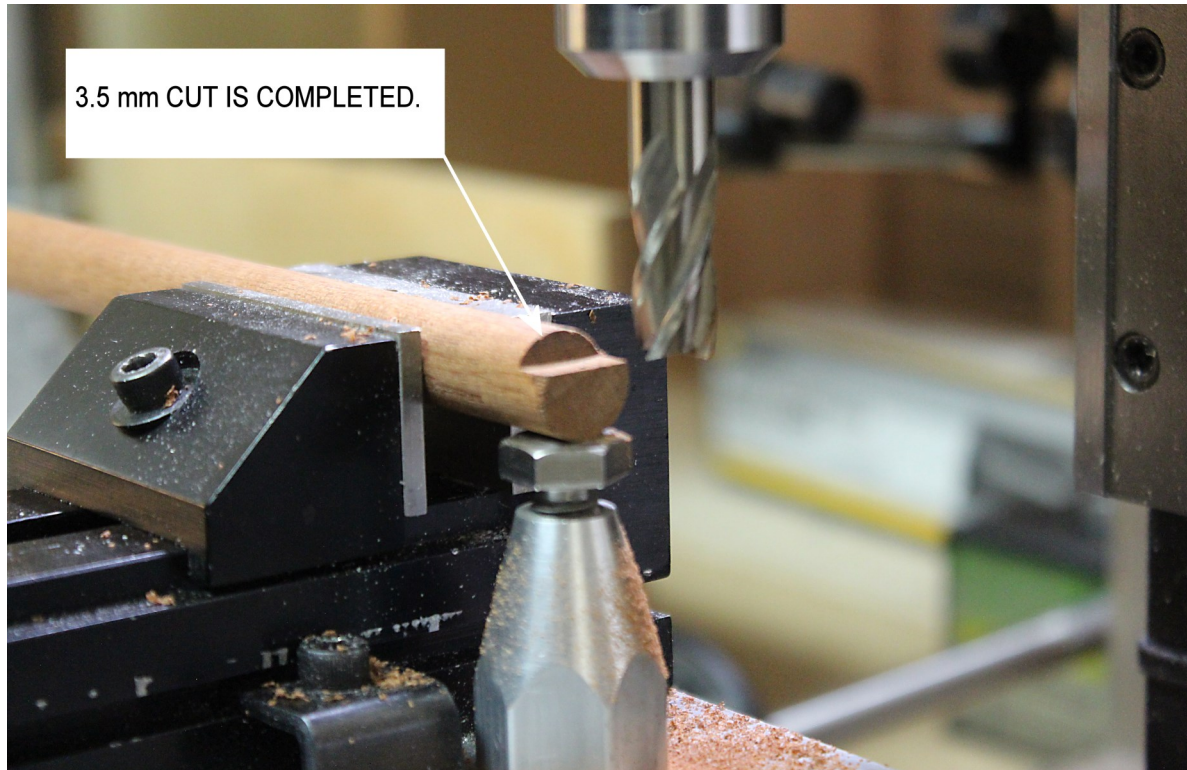

FIG. 3
**Figure 3** shows that the 3.5 mm depth of cut is completed. This is after a cut of 1mm three times and a final pass of .5 mm. It is important to note that this flat edge is flat parallel to your Mill Base Plate.